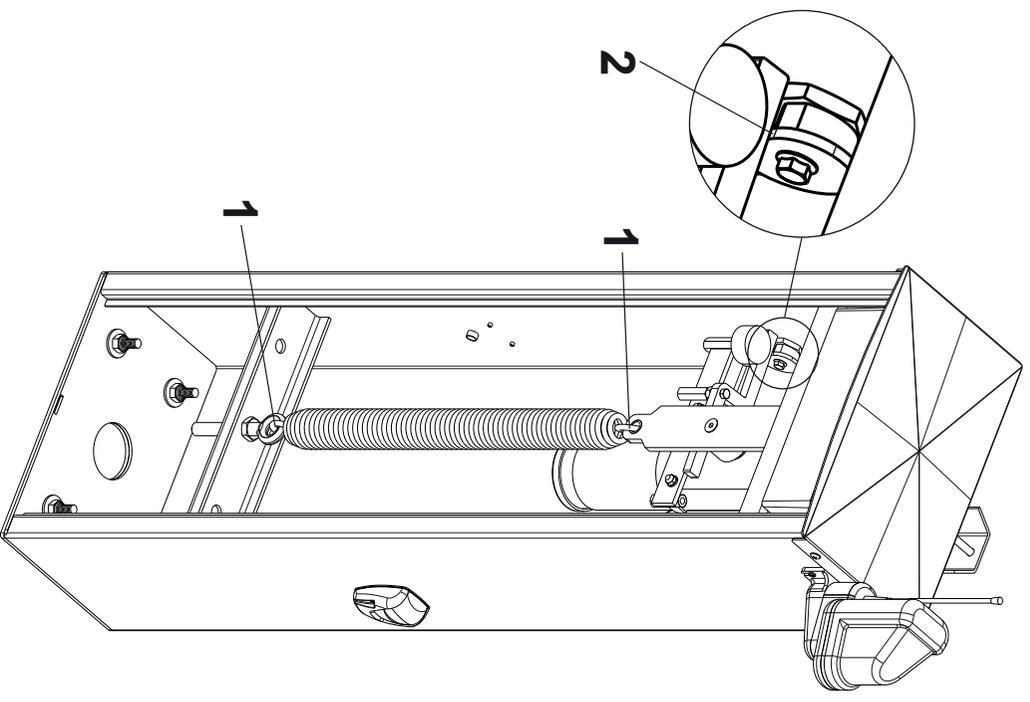

fig. 11
- 2_ grease the eyelets of the balancing spring (1 fig. 11);
- 3_ grease the contact points between the cam of the manual release and the release lever (2 fig. 11);